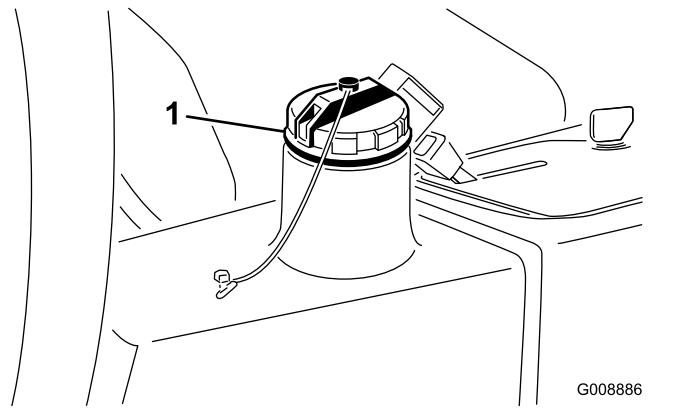

Figure 32
- Mobil EAL Envirosyn H 46 (US)
- 2. Clean the area around the filler neck and cap of the hydraulic tank (Figure 32).